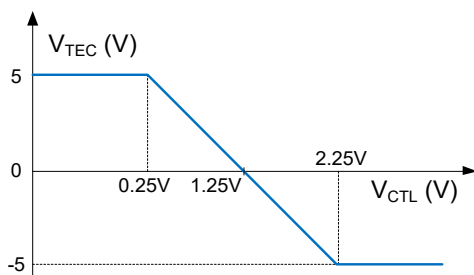

Figure 3. V_{TEC} Linear Relationship with V_{CTL}
A thermoelectric cooler is a heat pump that transfers the heat between its two surfaces depending on its voltage polarity. The TEC terminals are placed between the linear regulator (LDO) output (VOL) and the PWM regulator (synchronous Buck) output. The Buck output voltage is sensed by VOS pin. The Buck external inductor is placed between the switching node (SW) and the TEC terminal that is connected to VOS. So, the TEC bipolar voltage is $V_{TEC} = V_{VOL} - V_{VOS}$. Both LDO and Buck outputs can sink or source current up to 1.5A. V_{TEC} is controlled to have a linear relation with the V_{CTL} input but is limited to the lower of V_{IN} and V_{LIM} as shown in Figure 3.